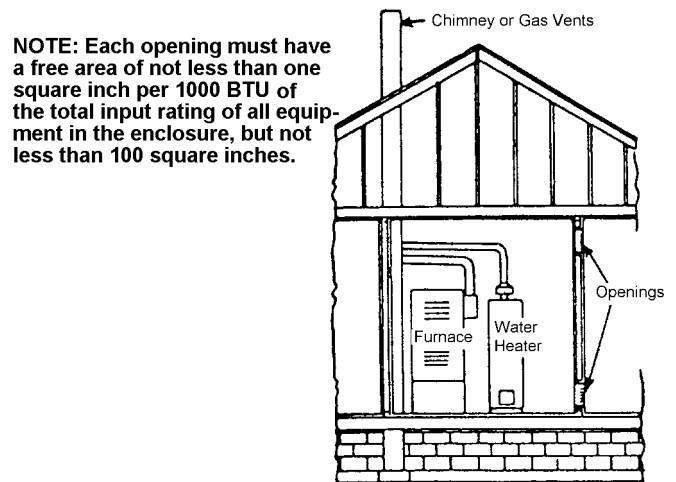

Figure 1
5.3.3 Equipment Located in Confined Spaces: (a) All Air from Inside the Building: The confined space shall be provided with two permanent openings communicating directly with an additional room(s) of sufficient volume so that the combined volume of all spaces meets the criteria for an unconfined space. The total input of all gas utilization equipment installed in the combined space shall be considered in making this determination. Each opening shall have a minimum free area of 1 square inch per 1,000 BTU per hour of the total input rating of all gas utilization equipment in the confined space, but not less than 100 square inches. One opening shall be within 12 inches of the top and one within 12 inches of the bottom of the enclosure. (Figure 1)